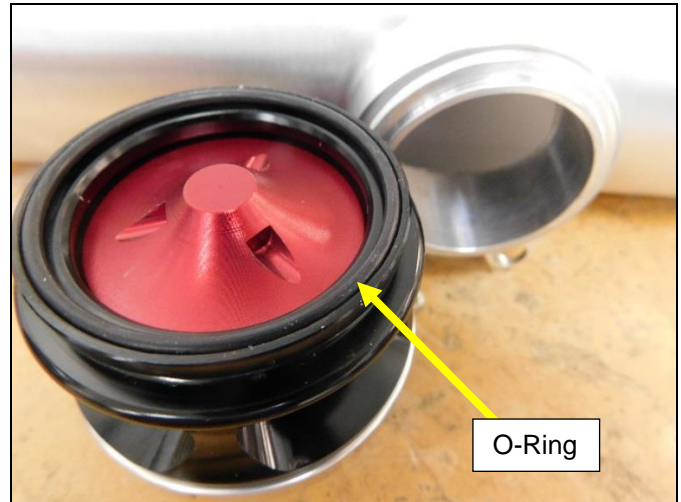

Figure 27
2. Install the O-Ring supplied with the blow off valve into the blow off valve flange. **Fig.27**